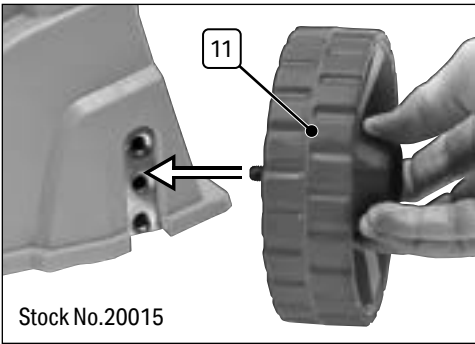

Fig. 10
6.7 Adjusting the Height of Cutting (Fig.10 – Fig.12)